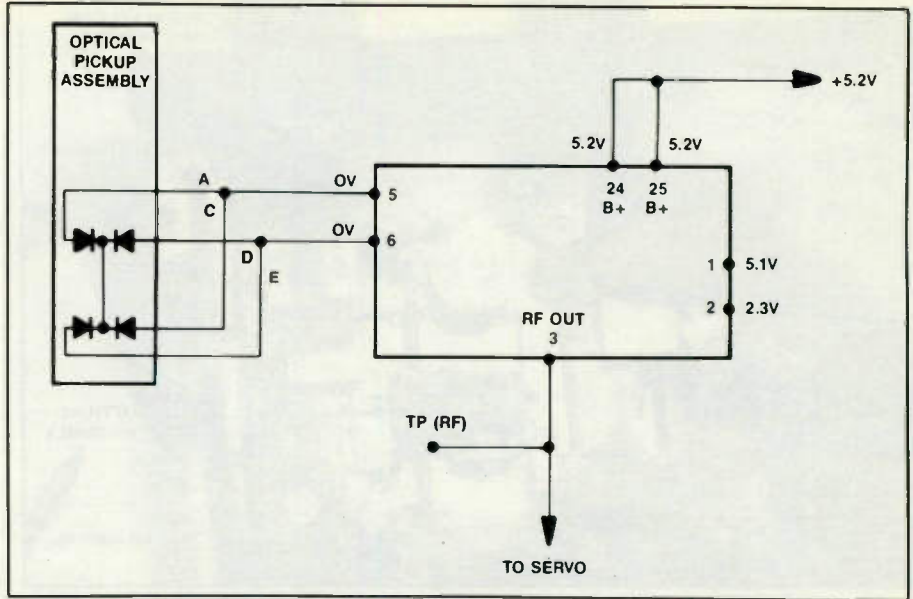

Figure 9. A defective RF amp/signal processor (IC652) in an Alpine 5900 auto CD player caused intermittent shutdown.
Since the disc motor would operate for a few seconds and then shut down, I decided to monitor the RF signal after the RF amplifier. I connected the scope to TP (RF), out of pin 3 at RF amp/signal processor IC 652 (Figure 9). I started the player and momentarily observed a weak RF signal before the player stopped. Again, the unit was started with the same results.